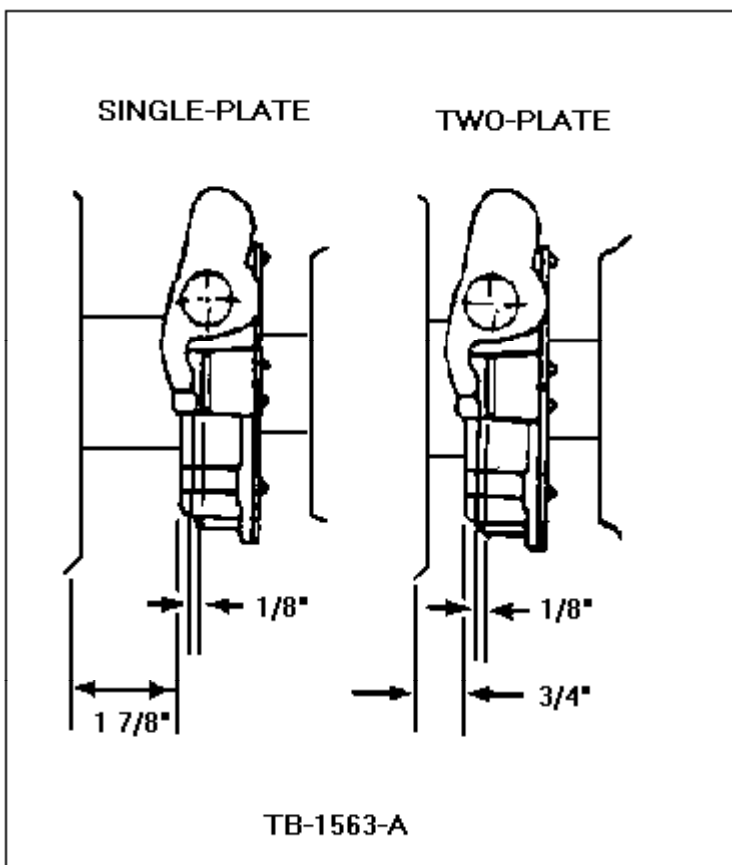

Figure 4 - Article 90-5-17
1. Check measurement with clutch pedal up, Figure 4.
3. To set 1 7/8" (47.6mm) or 3/4" (19.1mm) dimension as shown in Figure 4, proceed as follows:
- a. With pedal depressed, turn the adjusting ring to obtain about 1 7/8" (47.6mm) or 3/4" (19.1mm) as shown in Figure 4 for the respective single or two-plate clutches.
4. To set 1/8" (3.2mm) dimension as shown in Figure 4, proceed as follows: